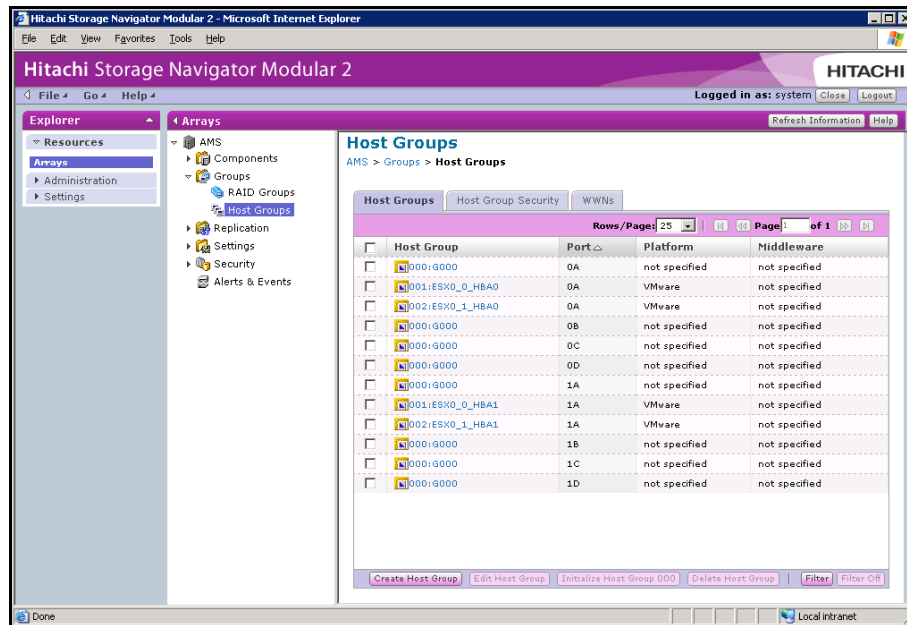

Figure 4-6: Example of Host Groups Screen
1. In the **Arrays** pane in the center of the Array Properties window, click **Groups > Host Groups**. A Host Groups screen similar to the one in Figure 4-6 appears, listing the available host groups on the selected array.